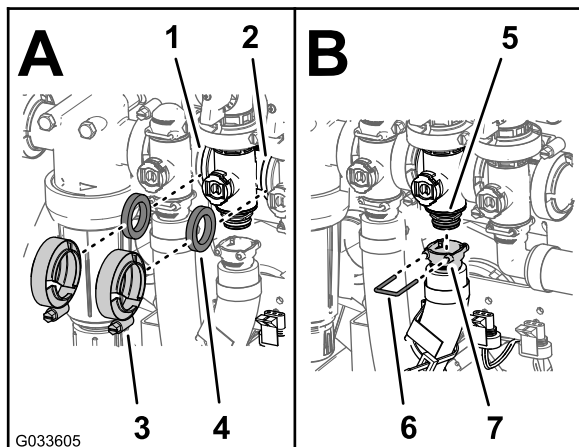

Figure 128
2. Assemble the agitation bypass valve, gasket, and agitation-valve manifold with a flange clamp and tighten by hand (Figure 128).